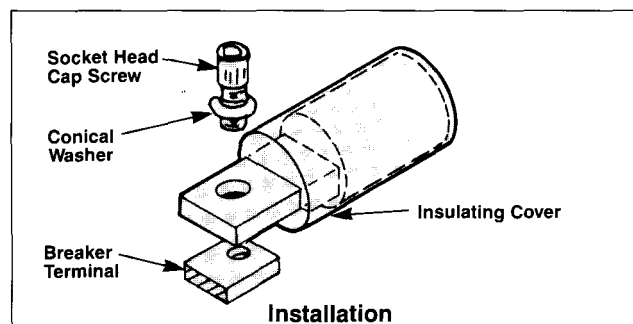

Figure 3
- Slip insulating cover over connector tang and then over connector barrel so that only the connector tang is exposed (Figure 3).
- Position connector tang on top of the circuit breaker terminal pad and secure with $\frac{3}{16}$ -16 x $\frac{3}{4}$ in. socket head cap screw and conical spring washer. Conical spring washer is to be installed with convex side of washer toward underside of screw head (Figure 3). Torque screw to 175 in-lb.